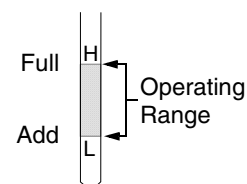

Figure 53
- Always keep the oil level between the 'H' (full) and the 'L' (add) marks on the dipstick. See Figure 53.
- SLOWLY pour oil into the crankcase until the oil level reaches the “FULL” mark on the dipstick. Refer to Figure 53.